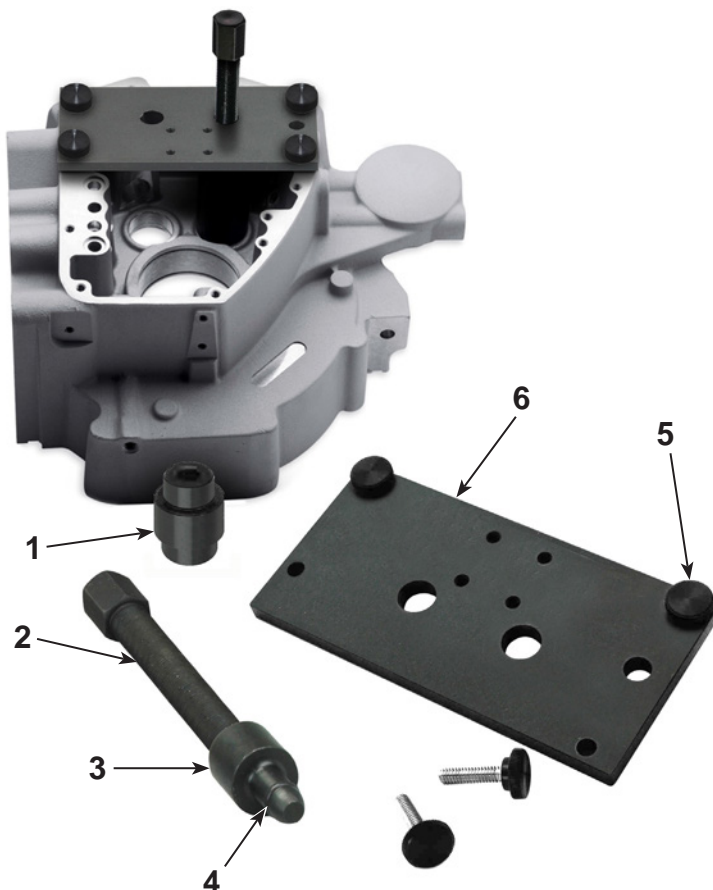

Figure 2
1. Apply a small amount of lubricating oil to the threads of the forcing screw (item 2). Then thread the forcing screw into the cam bearing installer plate (6). See Figure 2.
2. Thread the cam bearing driver tool (3) onto the end of the forcing screw (2).
- CAUTION:** On the cam bearing installer tool (1), notice that one end of the tool has a larger step than the other end. The small step is used for cam bearings on early models. The large step is used for cam bearings on late twin cams. Select the proper end of the installer tool for your particular-size bearing.
3. Select the proper end of the cam bearing installer tool (1) for your particular cam bearing, then push the other end of the installer tool onto the end of the cam bearing driver tool (3). Make sure the O-ring (4) on the end of the driver tool is in place when attaching the installer tool.
4. Before installing a new cam bearing, pay attention to the letters and numbers marked on the bearing. The bearing must be oriented with the letters and numbers facing outward (up) against the cam bearing installer tool (1).
7. Attach the assembled tool (with bearing in position) to the cam housing case, using four lubricated thumb screws (5). **CAUTION:** Lubricate the threads on each thumb screw before threading them into place.
8. Ensure the threads on the forcing screw (2) are well lubricated. Then carefully and slowly, turn the forcing screw clockwise. Once the bearing safely clears the bore, continue to tighten the forcing screw until the bearing is fully seated in the bore. Repeat the process for the next bearing.